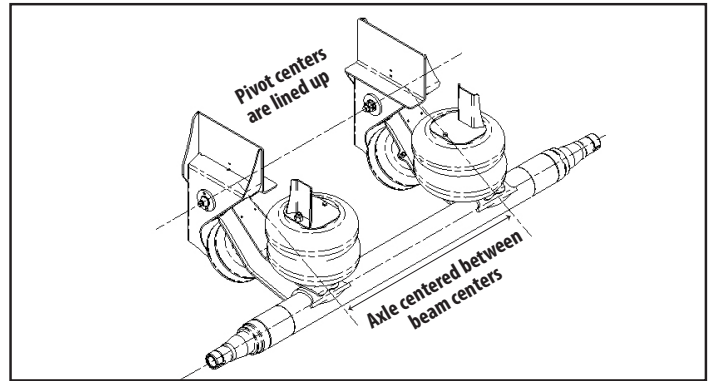

Figure 4.
1. Center the axle assembly on the beams (Figure 4).